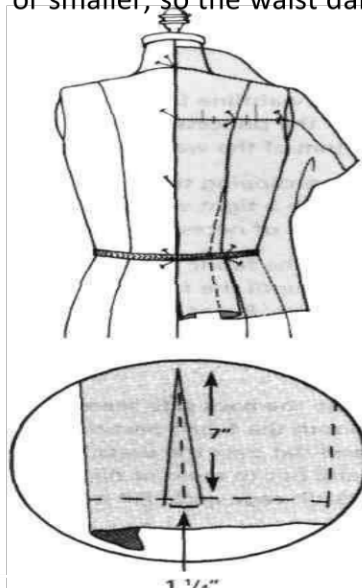

Fig.8.13
- c. Measure and crossmark 7 inches up at the middle of the dart, remaining parallel to centre back (on grain). See Fig 8.13.